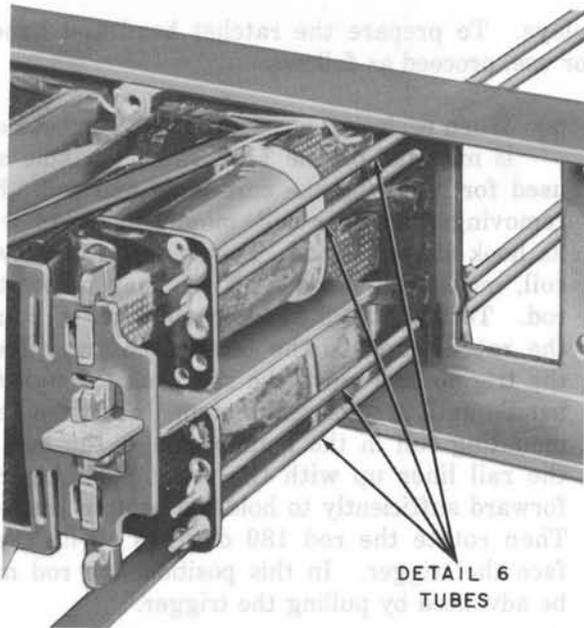

Fig. 23—Detail 6 Tubes on Terminal Rods
3.47 Insert terminals of new relay coil into Detail 6 tubes and guide the terminals into their respective holes in the terminal bracket. Upper Detail 6 tube should protrude approximately 1 inch ahead of the lower tube to facilitate insertion into the terminal bracket. The tubes are used to prevent shorting of coil terminals. See Fig. 23.